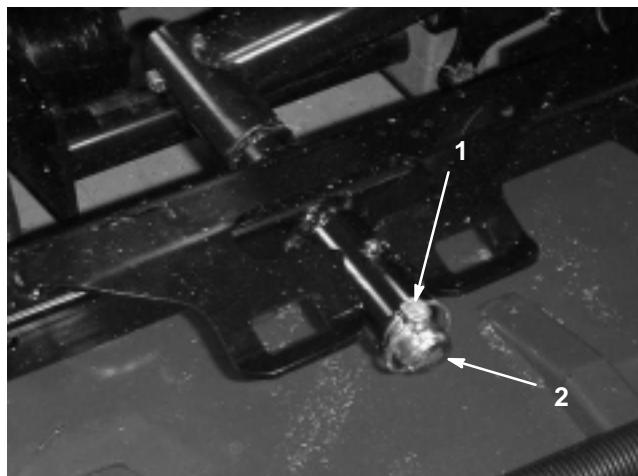

Figure 9
3. Remove lynch pin securing deck carrier frame to lift arm pivot pin (Fig. 9).
3. Slide deck carrier frame onto lift arm pivot pin. Secure with lynch pin (Fig. 9).